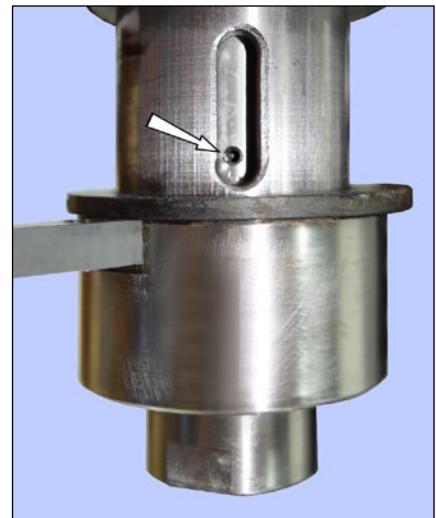

Figure 3-3 Collet set screw
**R8 tooling is located in the spindle bore by a set screw. If it is difficult or impossible to insert the R8 device, chances are the set screw is in too far. Rotate the spindle by hand to expose the screw, Figure 3-3, then back it out a fraction of a turn using a 2.5 mm hex wrench.**